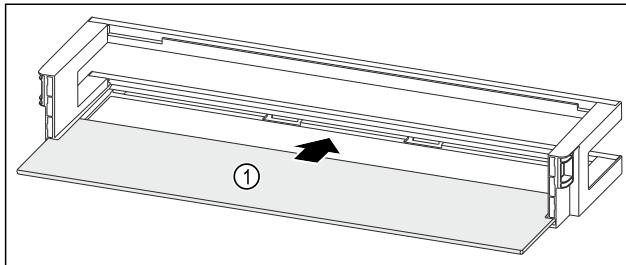

Fig. 123 Door rack with shelf
- ▶ Push the shelf Fig. 123 (1) into the side recesses.